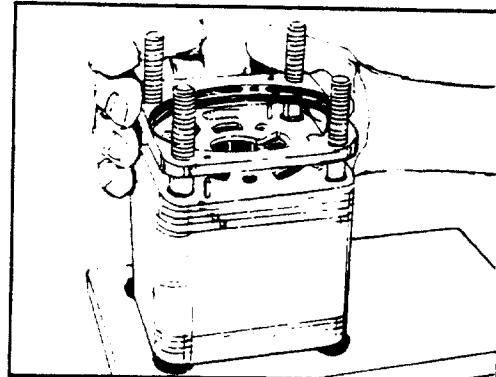

FIGURE 80.
32. Apply clean grease to a seal ring (3) and place it in the valve ring (12) recess that will face down when installed. Install the valve ring over the bolts and alignment pins with seal ring facing the isolation manifold (15). See figure 80.